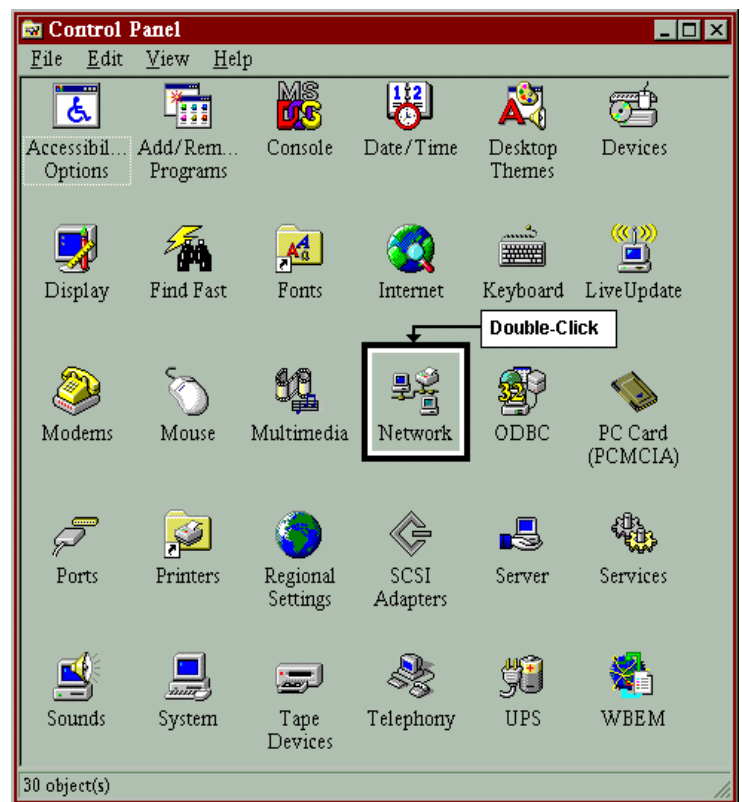

Figure 3-6
2. Open the **Network** (Figure 3-6) property window.